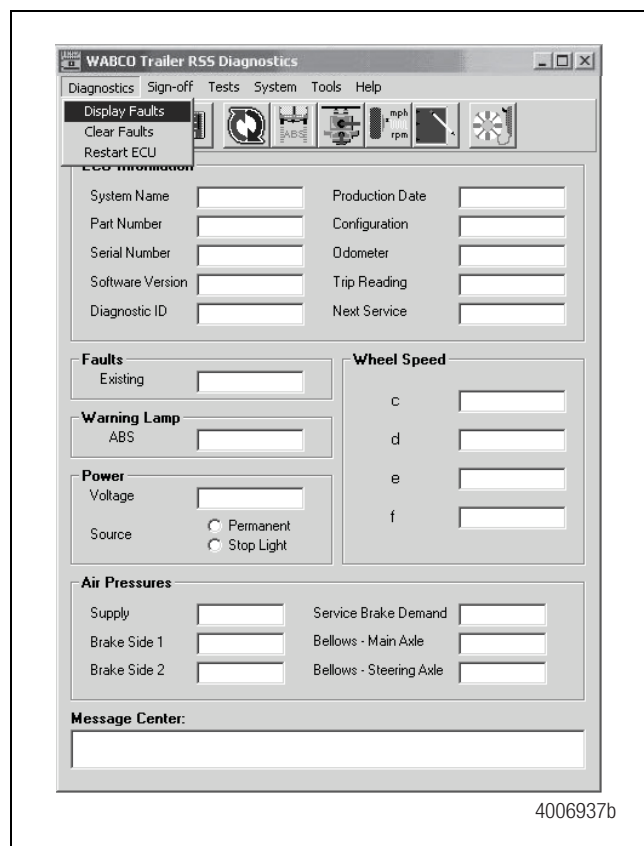

Figure 61
2. From the main screen of the WABCO trailer RSS diagnostics software, select **Diagnostics** from the top menu bar. Figure 61.